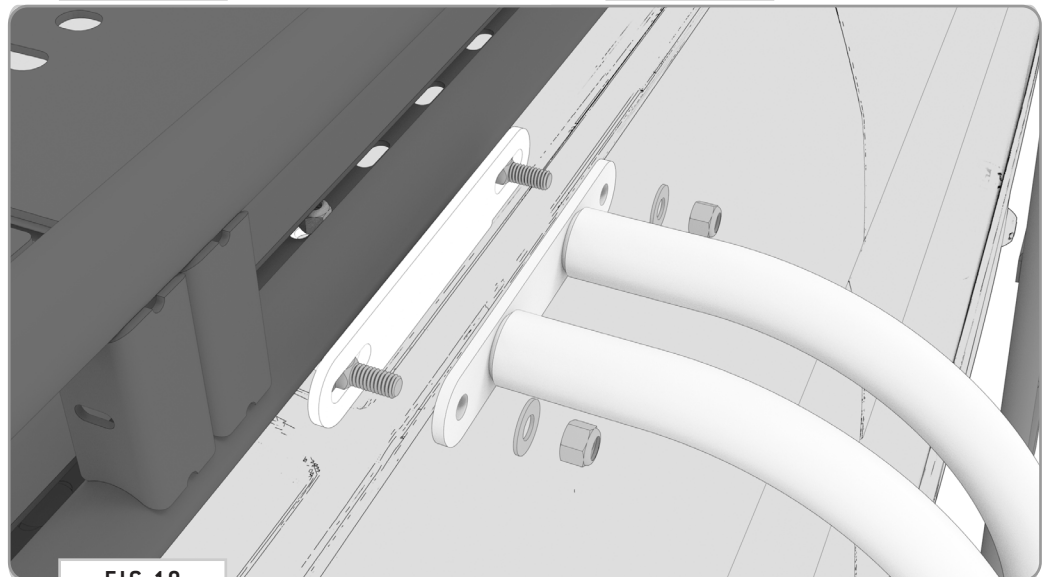

FIG 19
**5.2b Attach Surf Pole to Safari Bracket:** Loosely attach the Surf Pole to the Safari Bracket using **3/8-16" Carriage Bolts, Flat Washers and Nylon Locknuts (FIG 19)**.